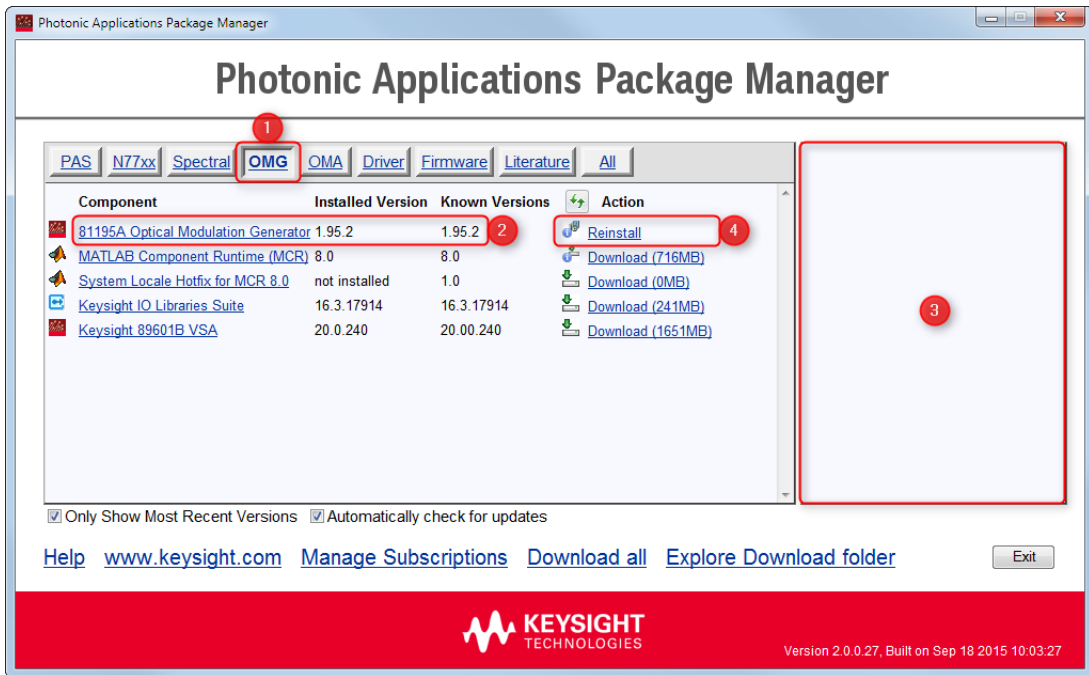

Figure 1 Photonic Applications Package Manager
The Package Manager, shown in the Figure 1 on page 14, is used for other Keysight photonic applications as well, so you may have to switch to the OMG tab (1) to see the actual OMG related packages. This will happen automatically, when the Package Manager is launched from the 81195A OMG software’s help menu or the M8195A software’s start menu folder.